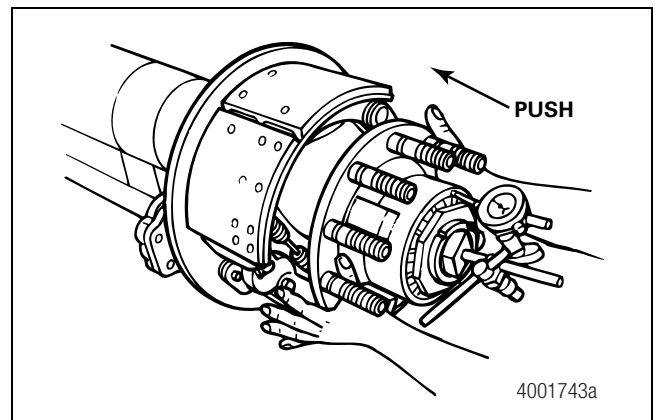

Figure 13.30
2. Push the hub INWARD until the dial indicator does not change. Set the dial indicator to ZERO. Figure 13.30.